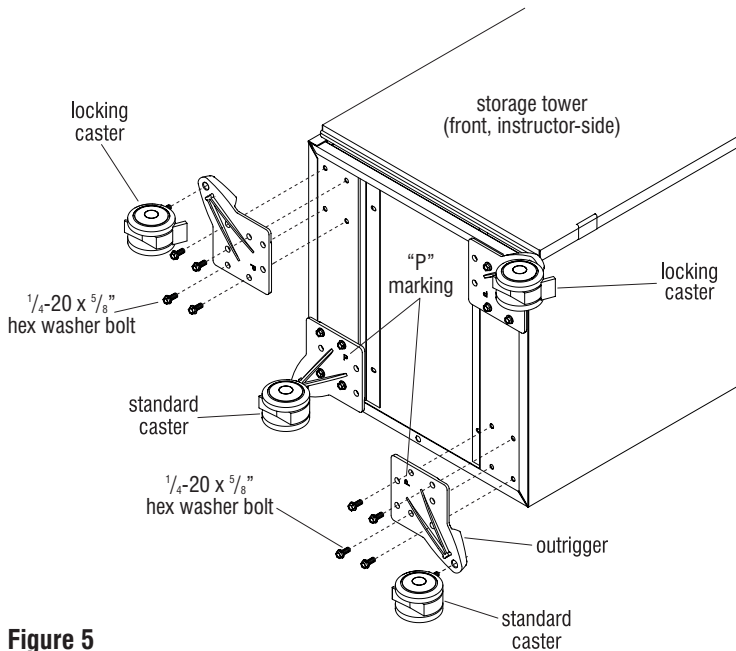

Figure 5
part of the next assembly process. Position the outriggers as illustrated, with the "P" marking face-up, over the appropriate mounting holes at the underside of the tower. Secure each outrigger to the underside of the tower with four 1/4"-20 x 5/8" hex washer bolts (Figure 5).
3. Thread the casters into the outriggers. Locking casters must be positioned to the front, instructor-side of the storage tower. Tighten the jamb-nut of the caster to the outrigger with a wrench (Figure 5).